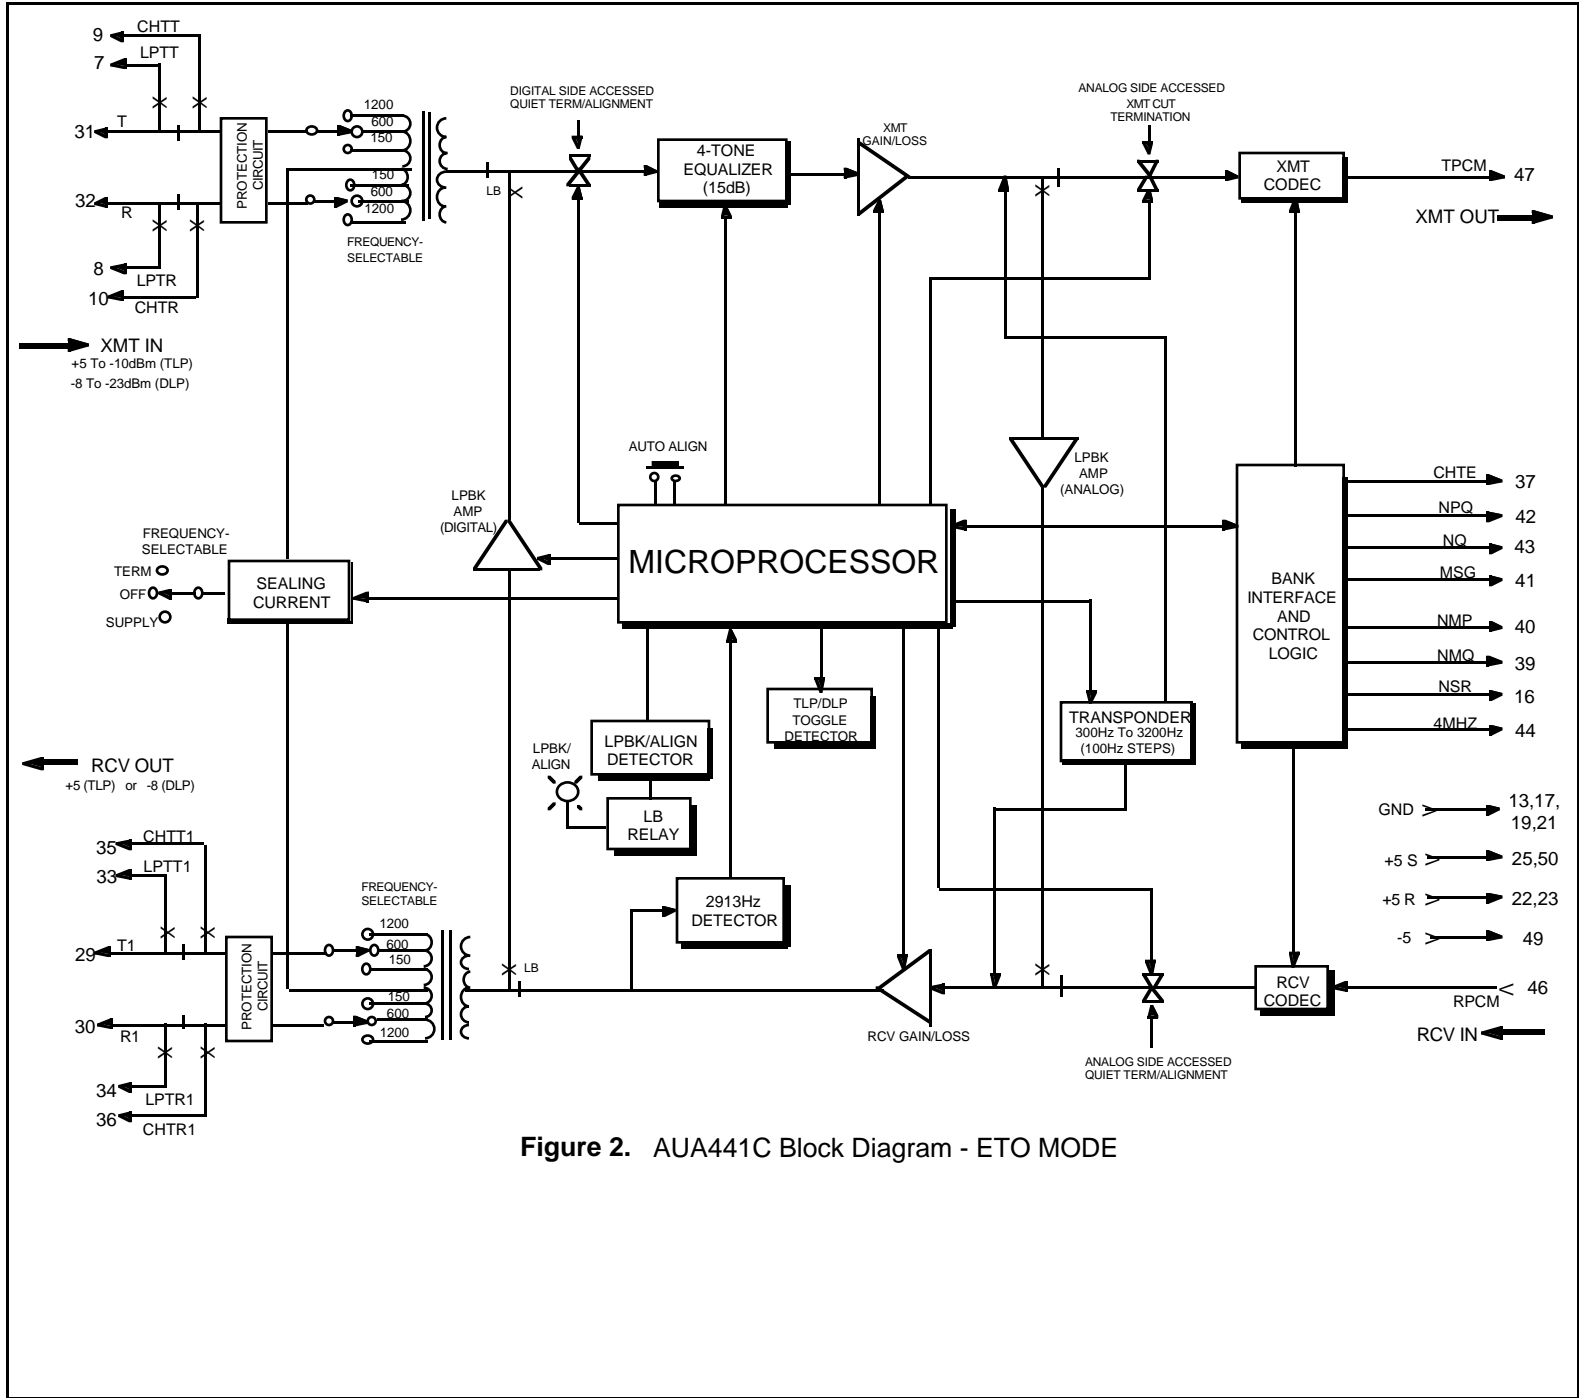
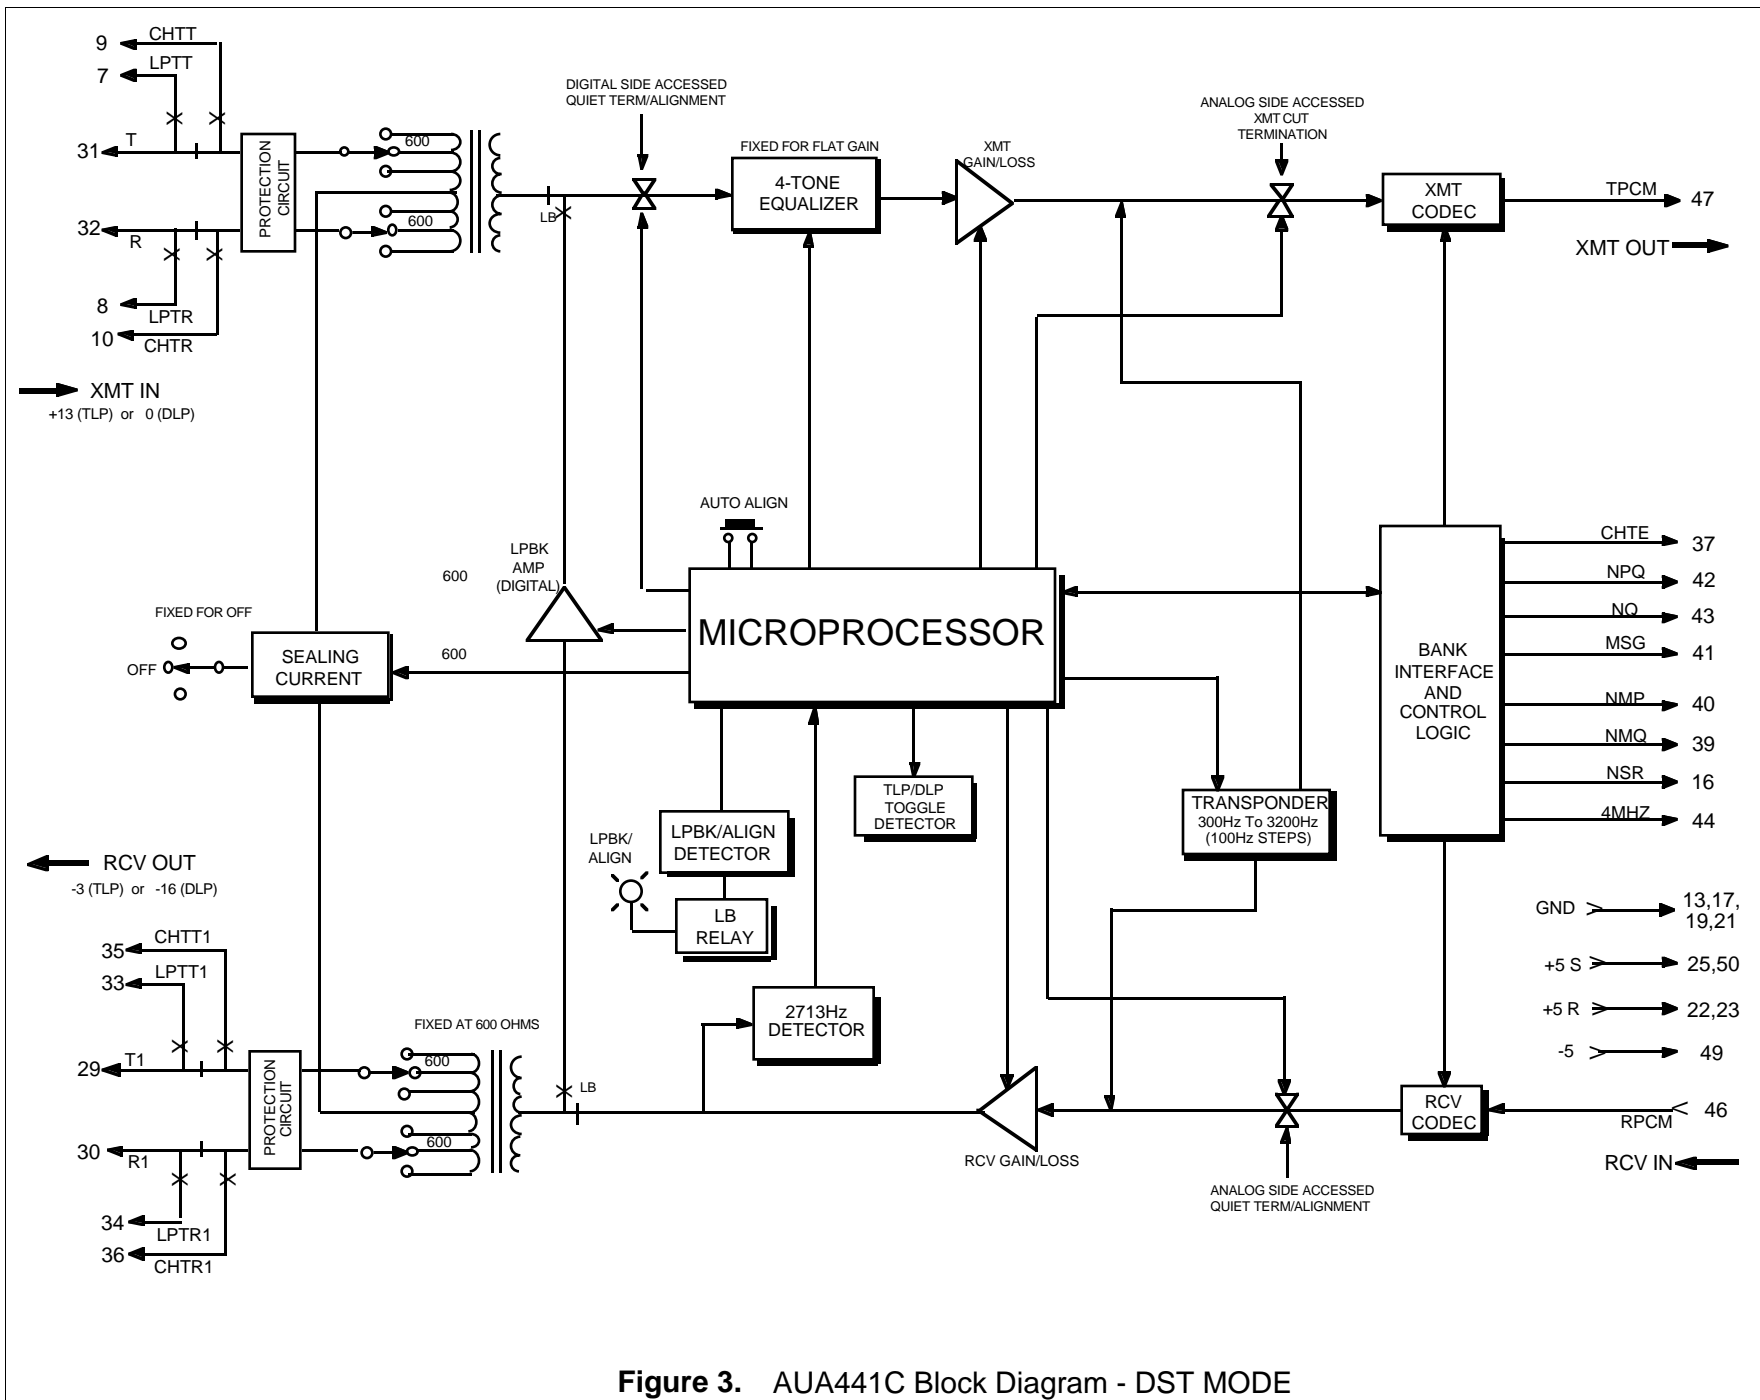

Figure 2. AUA441C Block Diagram - ETO MODE
Figure 3. AUA441C Block Diagram - DST MODE
4.01 Refer to Figure 2 (Block Diagram for the AUA441C when operating in the ETO mode) or Figure 3 (Block Diagram for the AUA441C when operating in the DST mode) as needed while reading the following description. In addition to the text, flowcharts are provided and can be used as a quick reference for accessing the AUA441C's intelligent functions.